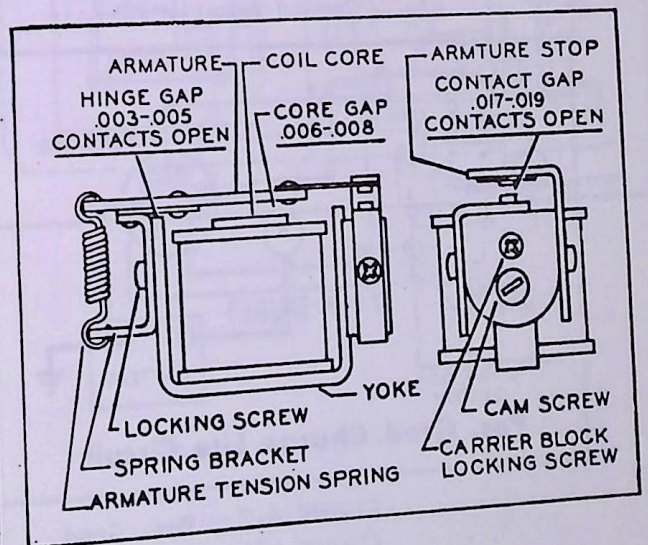

FIGURE 4-2
4.1.2 If the relay coil resistance is in the specified range or if the coil or wiring have been repaired, or the coil has been replaced; then check to be sure that the air gaps are set accurately according to the values shown in Figure 4-2. The three gaps are checked or set with the armature tension spring in place. If all the gaps are within the values shown in Figure 4-2 then proceed to the paragraph entitled "Closing Voltage Instructions".
4.2.1 Refer to Figure 4-2 for the following adjustments: To set the hinge gap, loosen the armature adjusting screw. Raise the armature assembly and insert the correct feeler gauge between the yoke and armature. While pressing down lightly on the armature, tighten the armature locking screw. Use a narrow feeler gauge to set the hinge gap (it may be necessary to grind one down) being careful to avoid the rivet heads near the hinge.
4.3.3 If the closing voltage is not within the above tolerance, then the spring bracket must be bent until the correct voltage is obtained. To raise the closing voltage increase the spring tension, while to lower the voltage decrease the spring tension. See Figure 4-2.